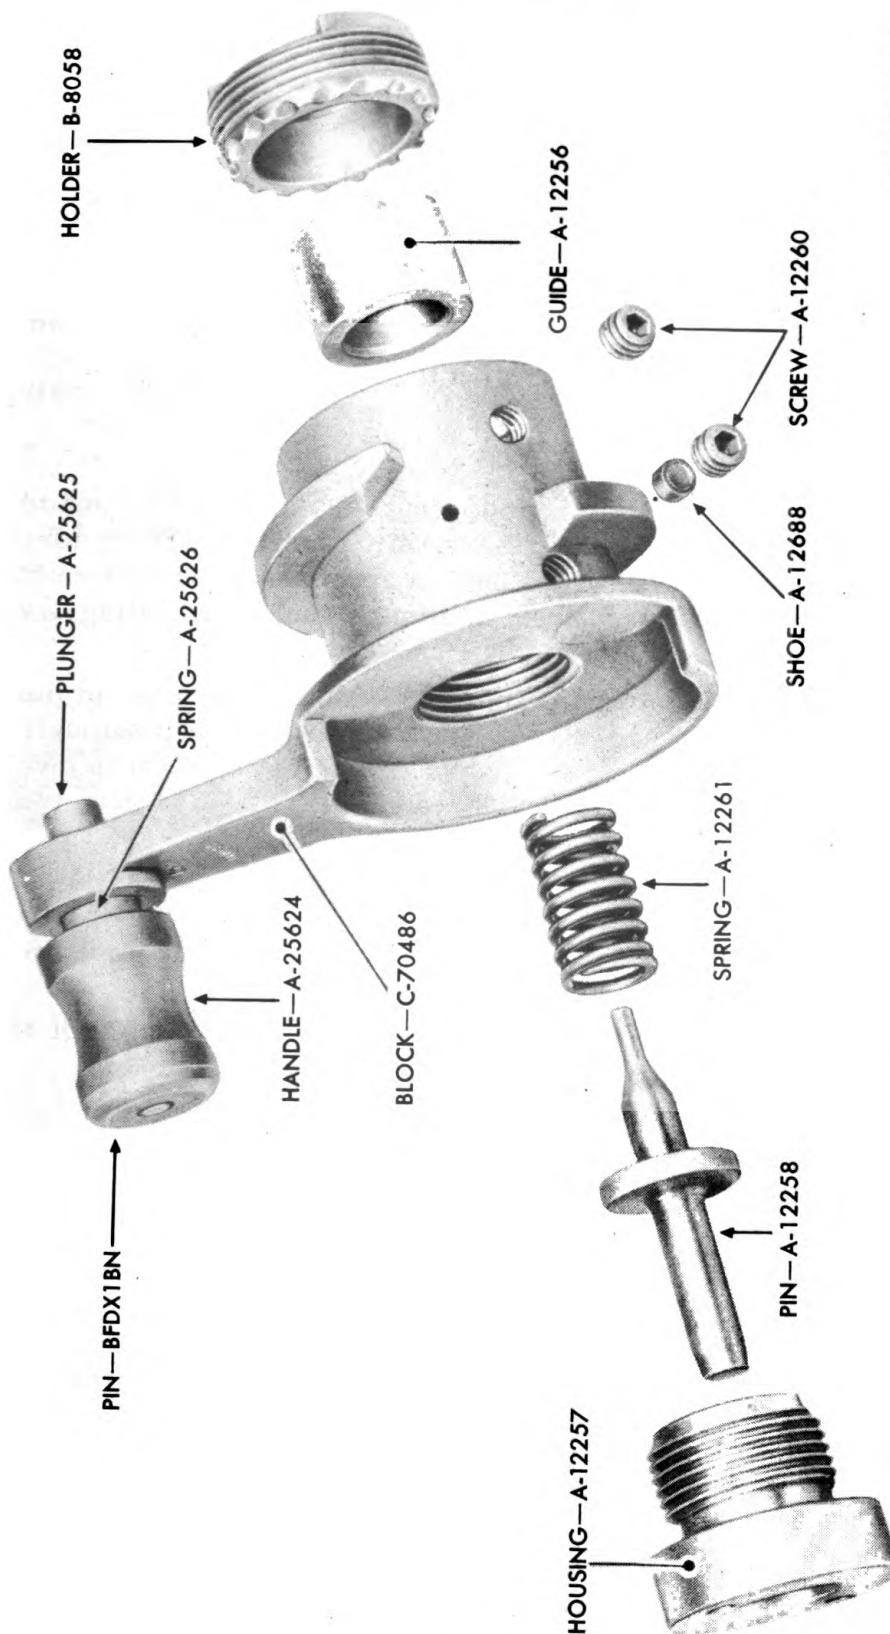

Figure 61 — Firing Mechanism M1 — Exploded View
b. An exploded view of the firing mechanism is shown in figure 61.